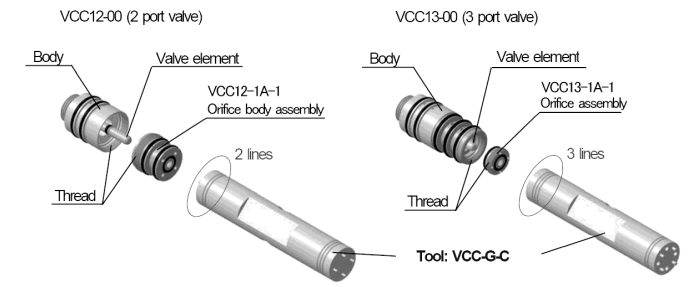

Figure 13
- Unscrew and detach the orifice body assembly from the valve body using tool VCC-G-C, ensuring the appropriate end is used depending on the valve type. See Figure 13